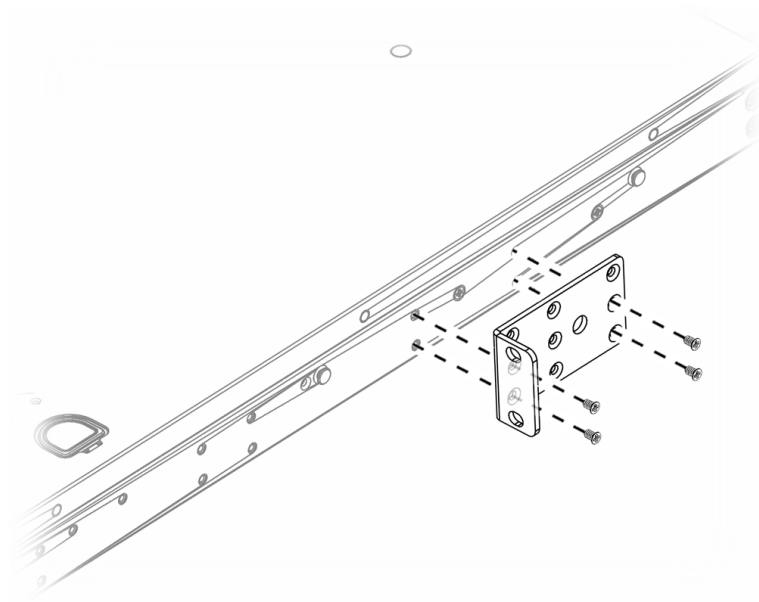

Figure 15: Mid-Mount: Attaching Short Mounting Brackets
- Figure 15 shows a mid-mount configuration using a short mounting bracket.